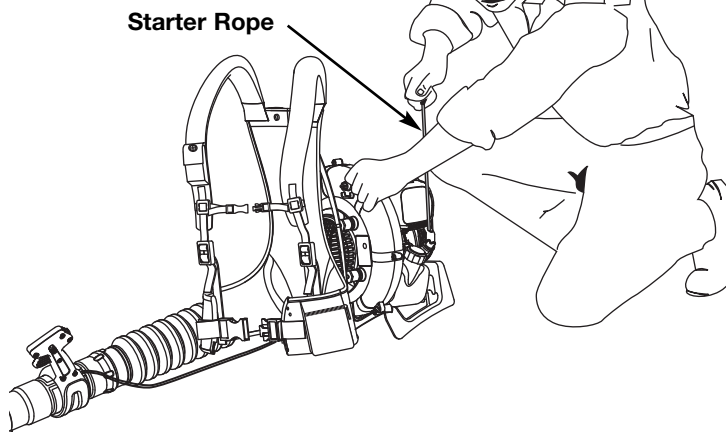

Fig. 17
WARNING: Avoid accidental starting. Make sure you are in the starting position when pulling the starter rope (Fig. 17). To avoid serious injury, the operator and unit must be in a stable position while starting. To avoid serious personal injury, make sure that the blower tube is locked in place or firmly installed.
5. Crouch in the starting position and pull the starter rope out about 4 inches, then pull 4 times in a **controlled and steady motion** to start engine (Fig. 17).